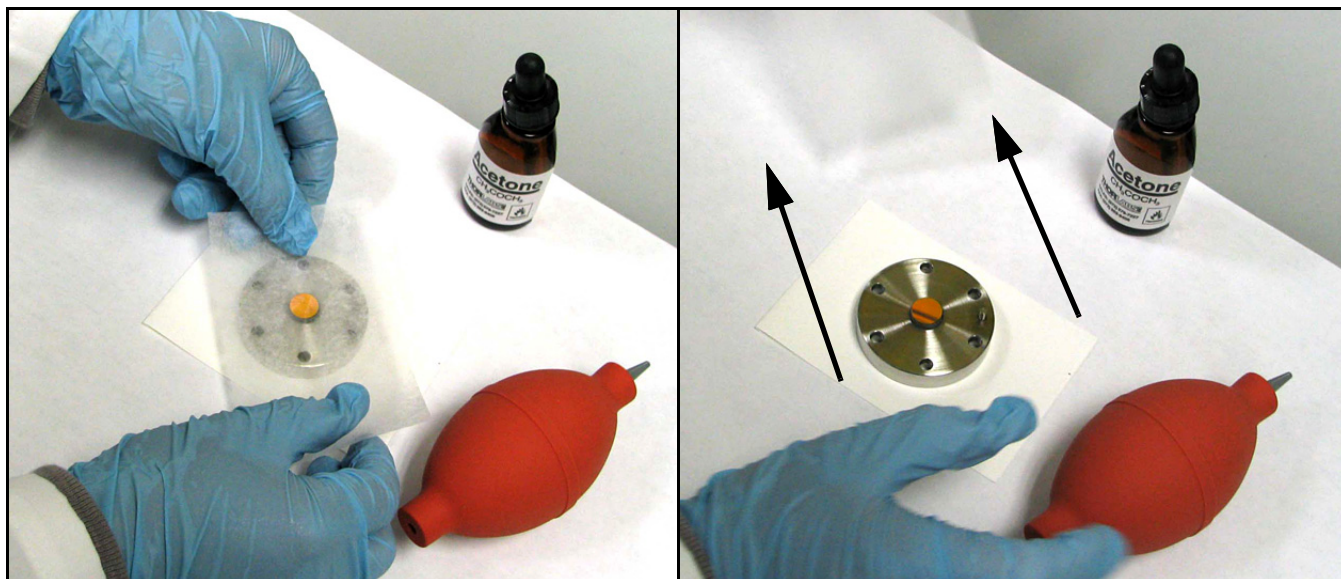

Figure 89: Dragging the Wet Lens Tissue Across the Mirror
- Place the wet lens tissue on top of the mirror and drag it horizontally across the surface of the mirror (see *Figure 89* below), ensuring minimal liquid residue/streaks are left behind on the mirror surface.